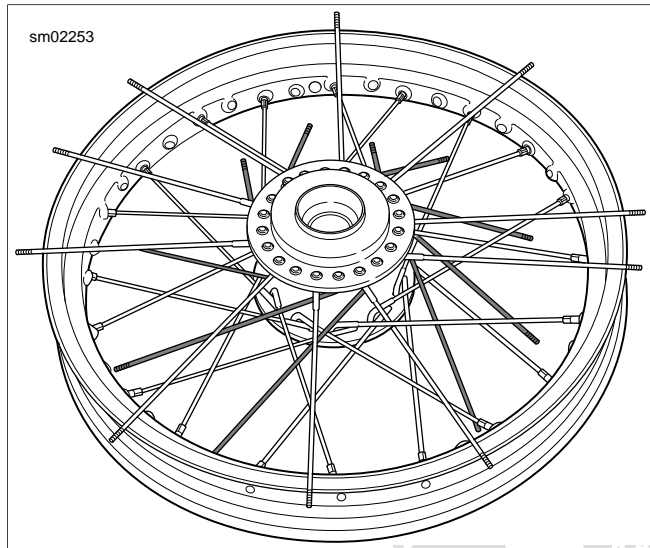

Figure 2-38. Setting Top Flange Inner Spokes
16. See Figure 2-38. Point all the top flange inner spokes (long head) clockwise one at a time leaving the outer spokes (short head) resting on the rim.